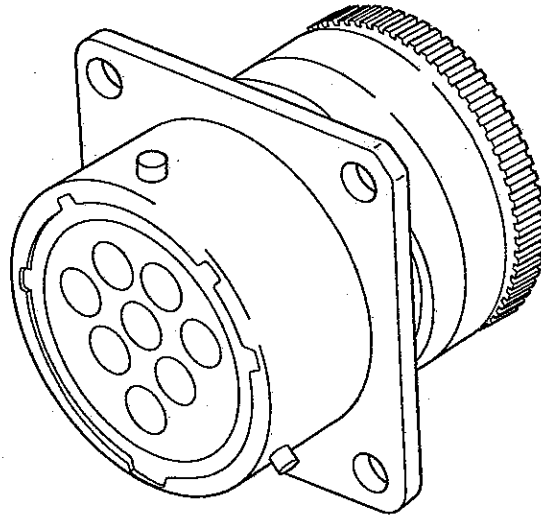

Fig 8 460 Square flange receptacle, general view
9.1 The 460 square flange wall mounting receptacle with crimped type contacts conforms to MS3120 specification and is suitable for panel mounting (Fig 8).